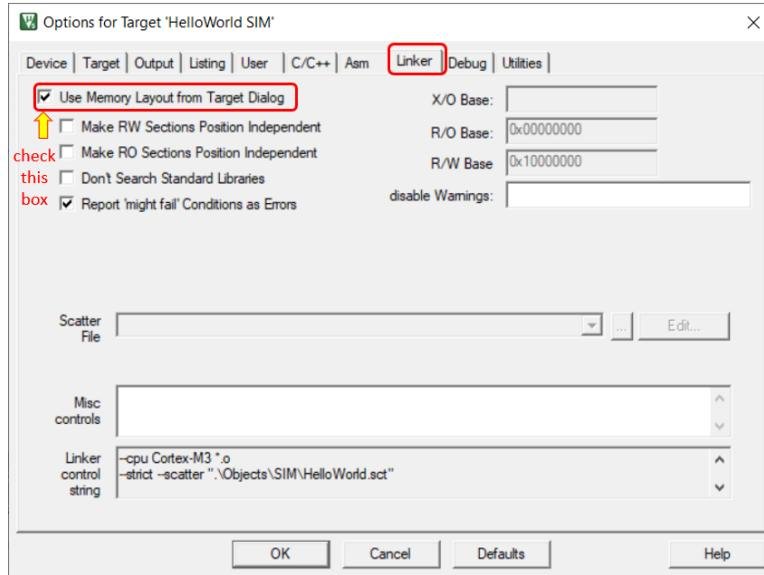

Figure 8.15: Keil IDE: Target Options Linker Tab Configuration
4. Configure the Linker tab as shown in Figure 8.15. This is to instruct the linker to use the memory layout from the Target tab setting instead of the default memory layout.